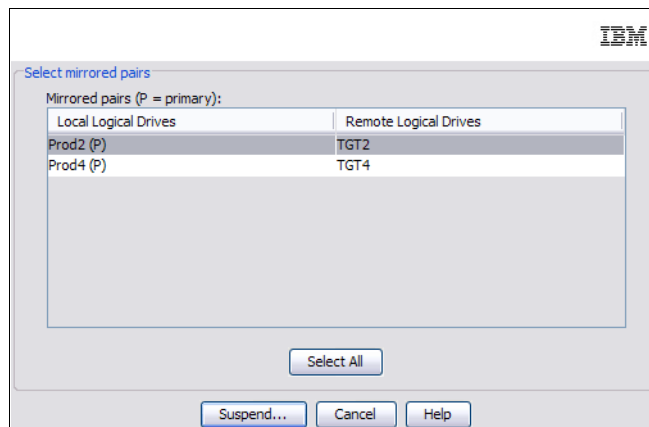

Figure 5-39 Suspend Mirrored Pair dialog
2. The Suspend Mirrored Pair dialog opens. The Select mirrored pairs area lists all primary logical drives in the storage subsystem. The primary logical drive that you initially selected is highlighted, similar to Figure 5-39.